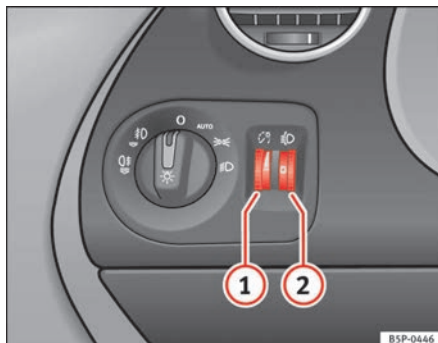

Fig. 84 Windscreen wiper and windscreen wash lever
The windscreen wiper lever \Rightarrow fig. 84 has the following positions:
- The next speed down will automatically be selected if speed ⇒ page 121, fig. 84 ② or ③ is selected when the vehicle stops. The set speed will be resumed when the vehicle starts again